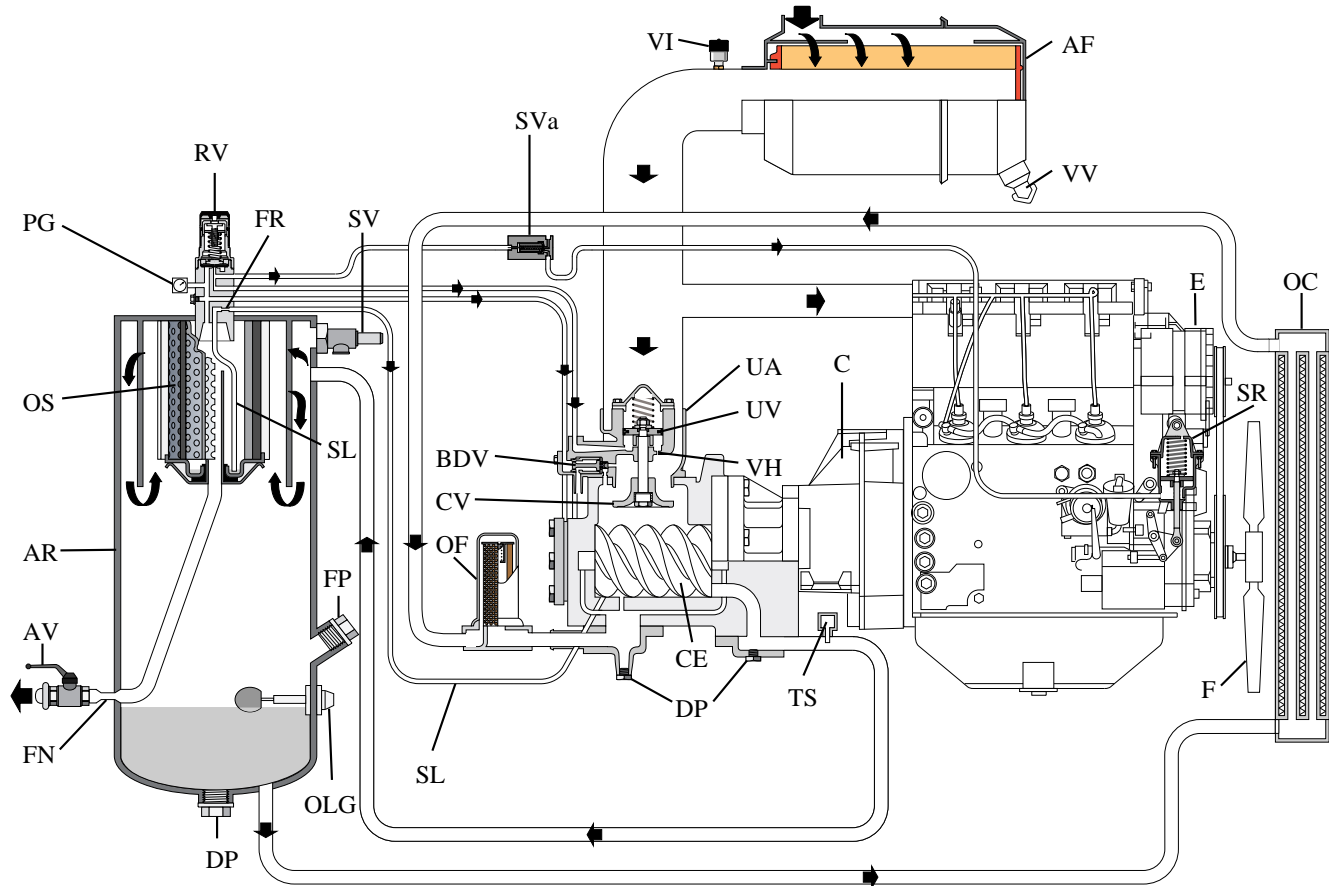

Fig. 2.3
2.5 LUFTSTRØM (SE FIG. 2.3)
2.6 OLIESYSTEM (SE FIG. 2.3)
2.7 PERMANENT REGULERINGSSYSTEM (SE FIG. 2.3)